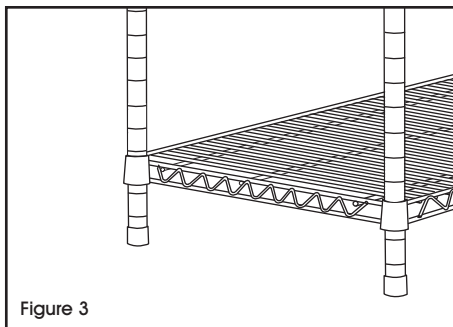

Figure 3
3. Stand unit upright. Gently tap shelf down to secure it. (See Figure 3)